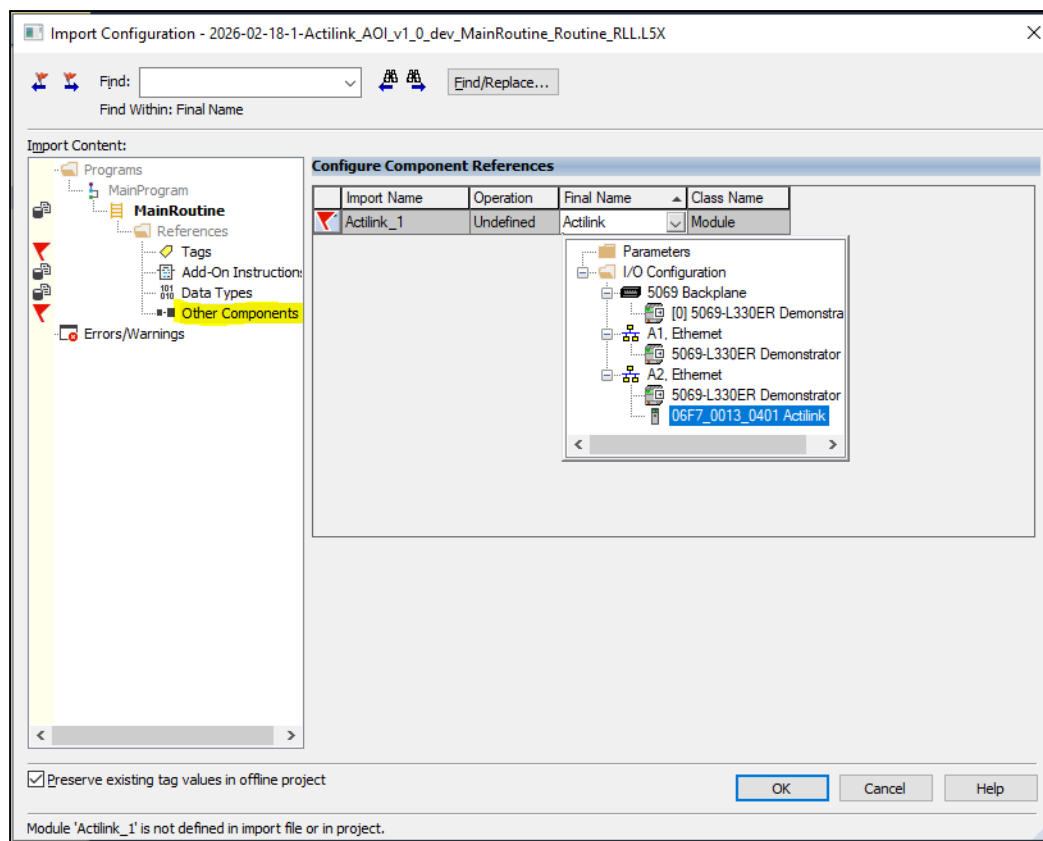

Figure 5.5 - Fix the link to the added ACTILINK module
- For information on how to fix the drive alias, see *Figure 5.5*.